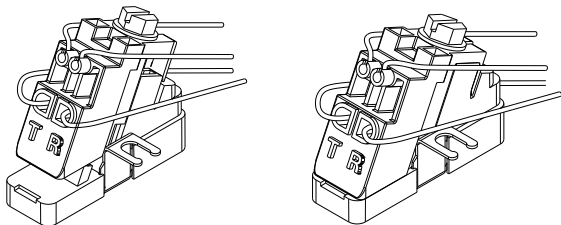

Figure 5
3. Lower Port Telco Connections (See Figure 5)